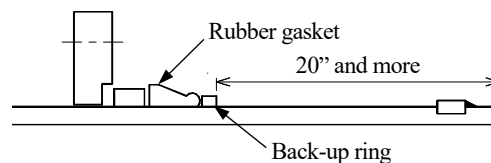

Figure 12 Set of rubber gasket and back-up ring
2) Confirm the indication mark of the joint type “S” on the backside of the rubber gasket. Clean the rubber gasket and back-up ring. Apply lubricant to the inside surface of the rubber gasket then set them on the spigot (see Figure 12). In this case, the reinforcement metal on the side of back-up ring is opposite side of the rubber gasket (see Figure 13).